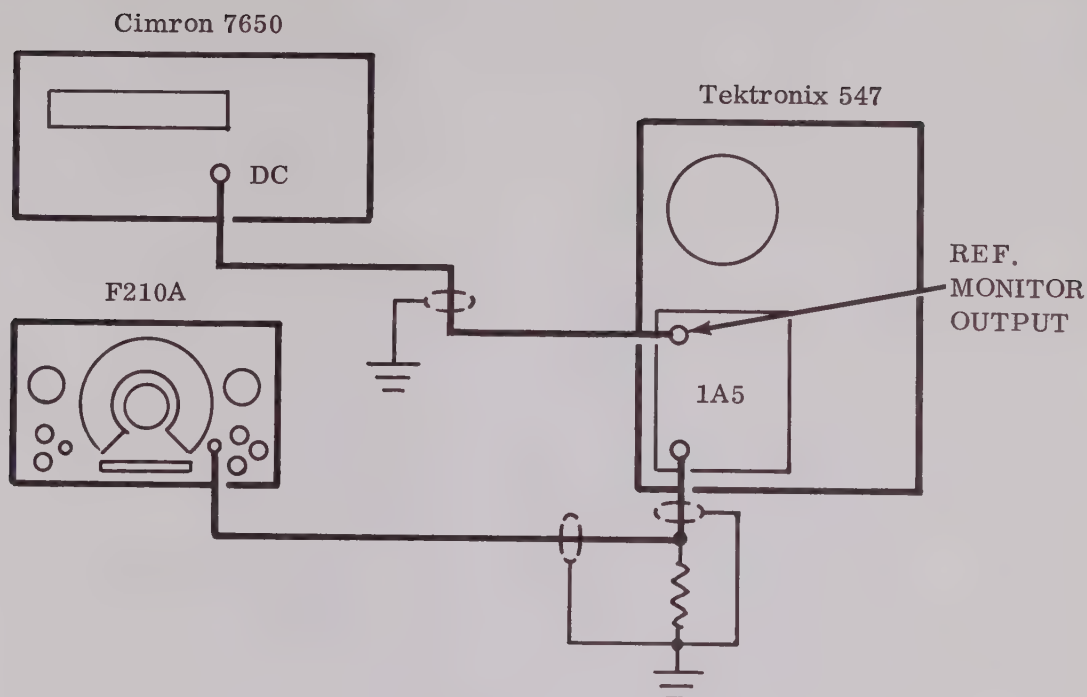

FIGURE 3-12
2. Interconnect the equipment as shown in Figure 3-12, observing signal and ground connections carefully.